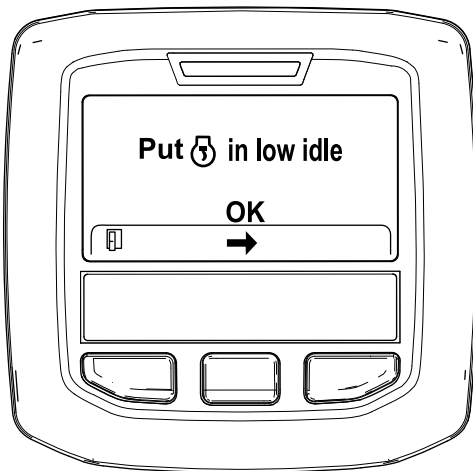

Figure 43
6. Move the throttle control to LOW IDLE and press the center button (Figure 43).